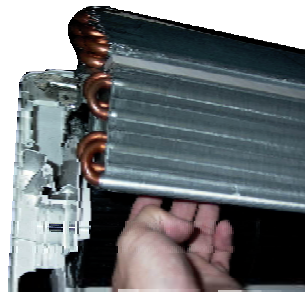

Fig. 10
1. Release the two fixing screws on the left side of the evaporator and lift up the evaporator slightly. (Fig. 10)